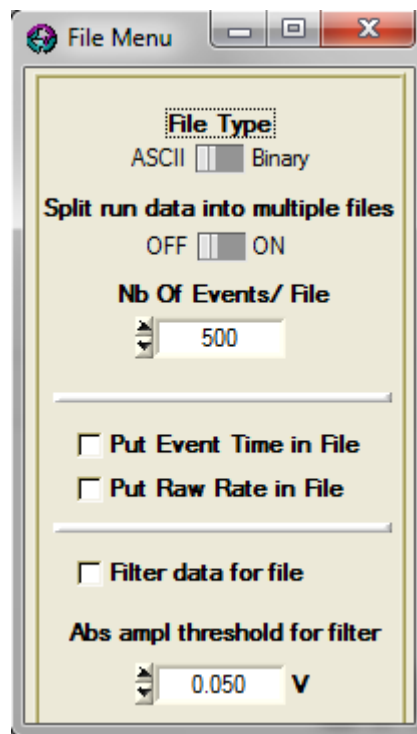

Figure 5.3: File menu
- **Saving Data File Options:** by clicking on this item in the menu, the user opens a new window displayed on **Figure 5.3**.